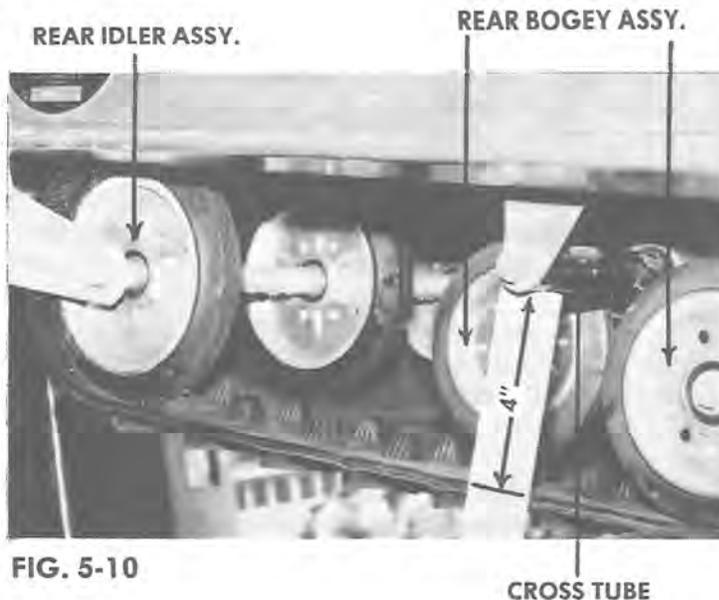

FIG. 5-10
3. Measure distance between bottom of Bogey Cross Tube at rear Bogey Set and inside of track. Measurement should be 4.0" and should be made on both sides of machine. (See Fig. 5-10).